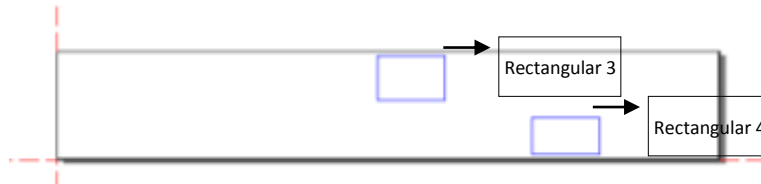

Fig.4-5
- b) The machine feeds material automatically (the feeding length is the L in the figure) and then cut the rectangular 3 and 4 in the second breadth, as shown in Fig.4-5: